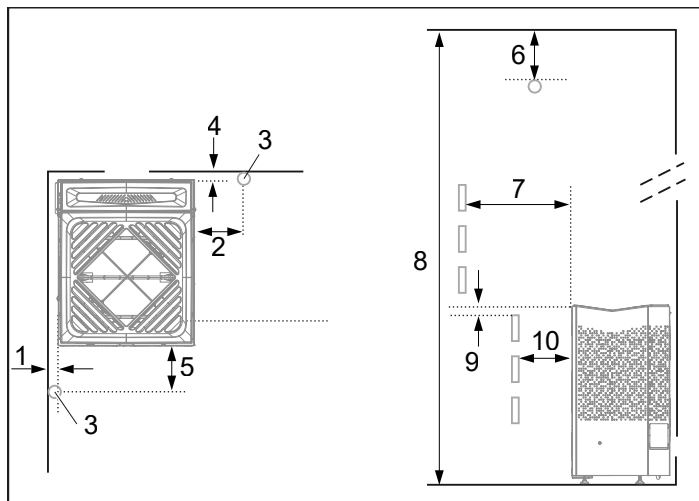
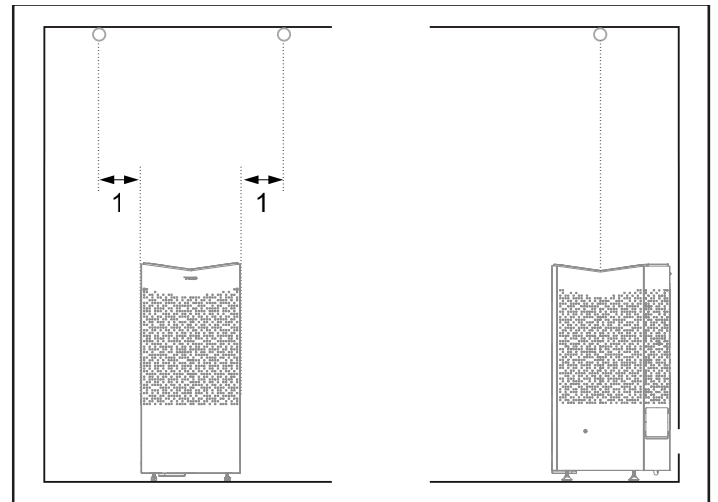

Figure 3: Positioning the heater - normal installation
Figure 4: Sensor installation on ceiling
- Plan the sauna heater positioning (see the Heater positioning - normal installation section, Figure 3).
- Plan the sensor positioning (see Figure 3 and Figure 4).
- Position the heater at a safe distance from the floor, side walls and interior fittings (see Figure 3).
Position the sensor according to the picture (see Figure 3). Shut any active air inlet with in 1000 mm from the sensor,
If the wall on which the sensor is to be installed is made of highly heat-absorbing material (e.g. concrete, brick, etc.), or of hardened glass, the sensor may be installed in the ceiling at a distance from the heater, according to Figure 4.